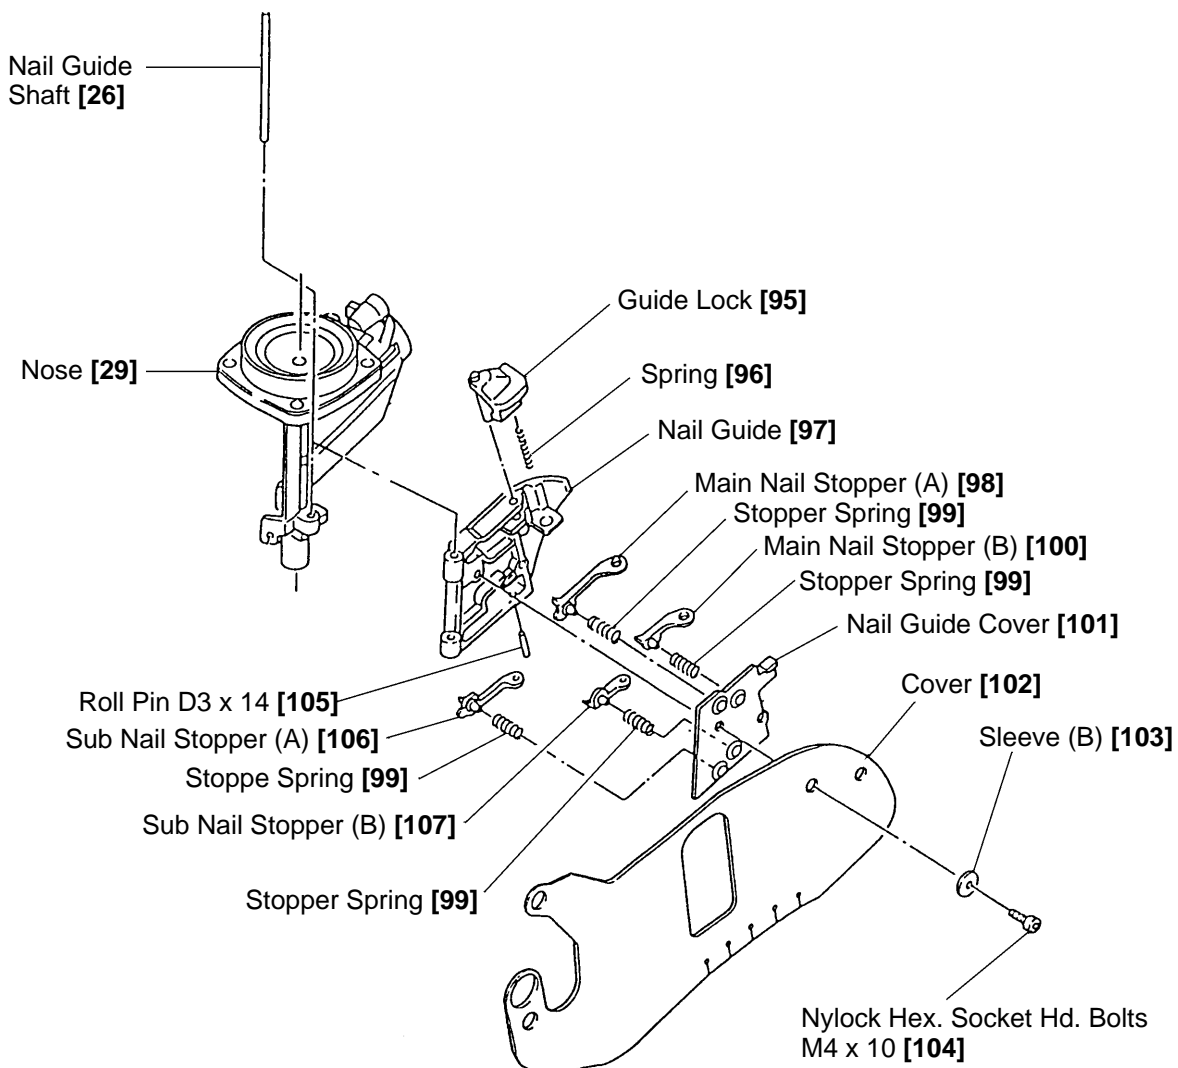

Fig. 14 Disassembly and reassembly of the nail guide
(3) Disassembly and reassembly of the Nail Guide (See Fig. 14)